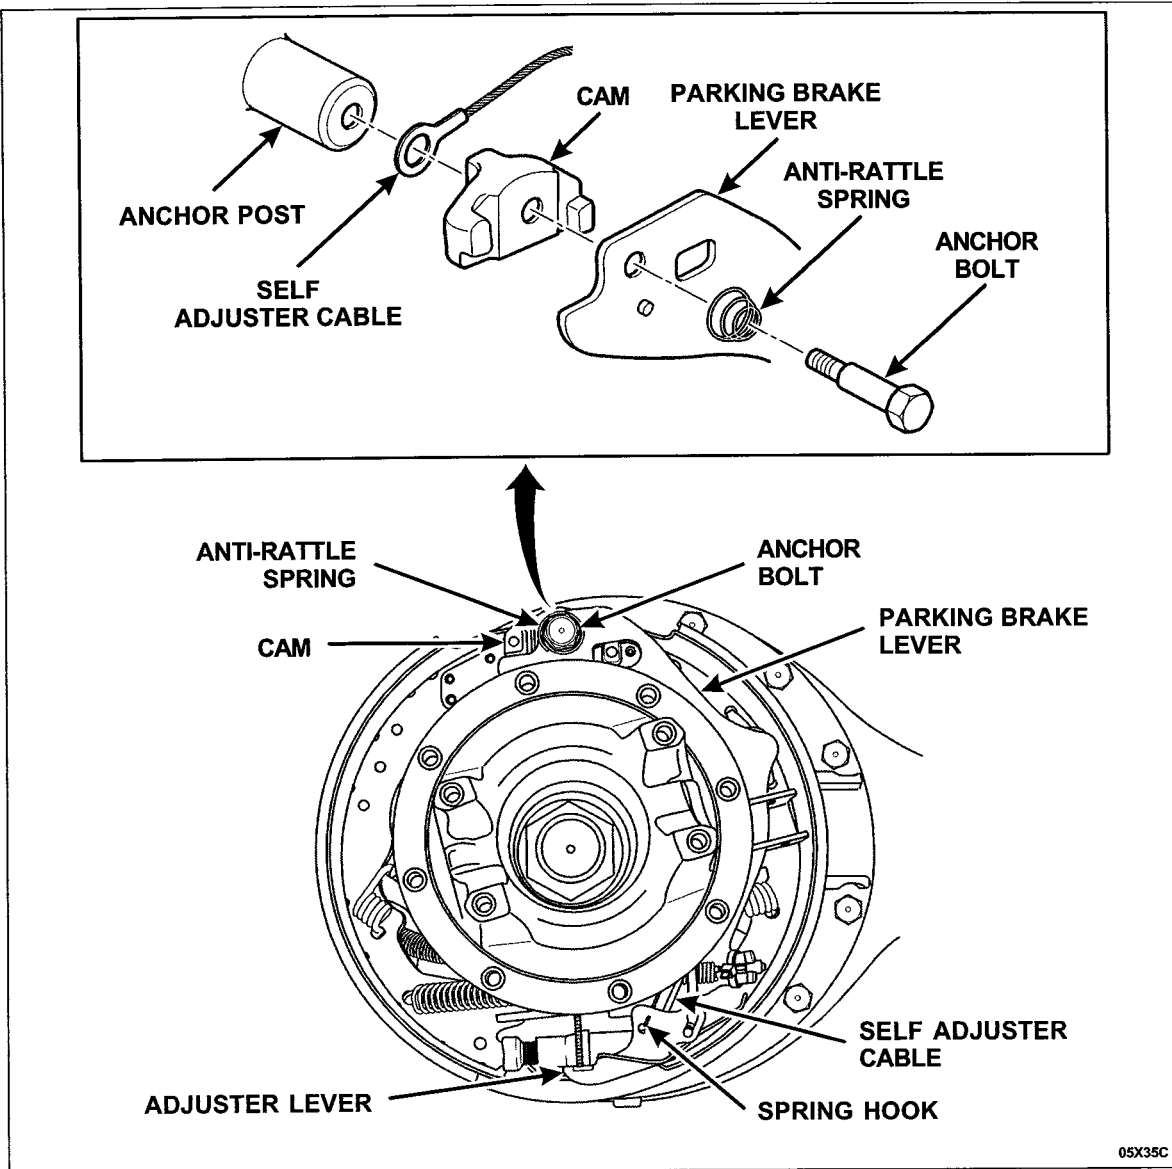

FIGURE 3
1. Position the self adjuster cable metal grommet (with the crimped side facing rearward), cam, parking brake lever and the **new** anchor bolt with the anti-rattle spring (small coil end to the bolt head) to the anchor post. Install the bolt only 1 or 2 turns at this time. See Figure 3.